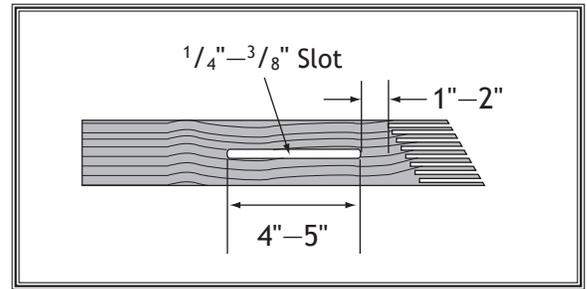

Figure 79. Slot routed in featherboard.
4. Rout a $\frac{1}{4}$ "- $\frac{3}{8}$ " wide slot 4"-5" long in workpiece and 1"-2" from short end of featherboard (see **Figure 79**).